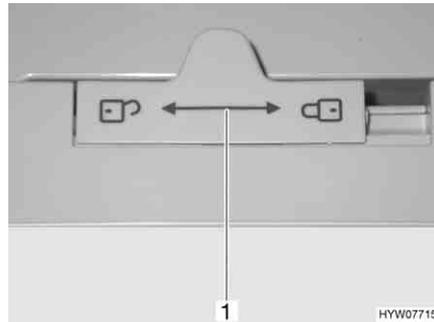

Fig. 211 Locking of the refrigerator door (Dometic 7 series)
- Push the lock (Fig. 211,1) to the left .
- Push the lock (Fig. 211,1) completely to the right .